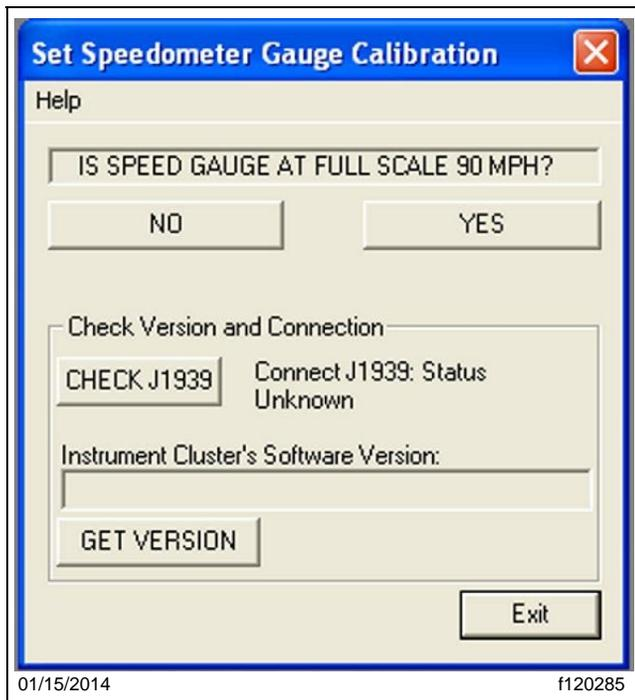

Fig. 3, Speedometer Gauge Calibration Screen
10. Once connected, check the Cluster Speedometer Gauge calibration. See **Fig. 3**.